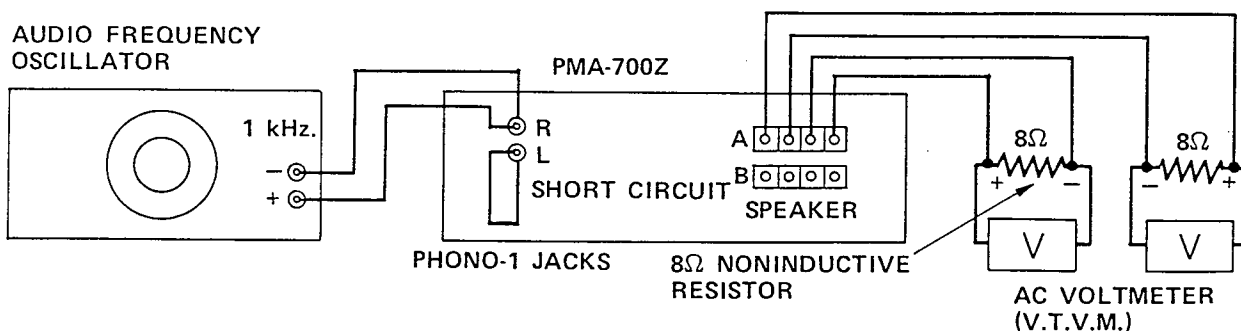

Fig. 24
- B. Connection of other instrument refer Fig. 24.